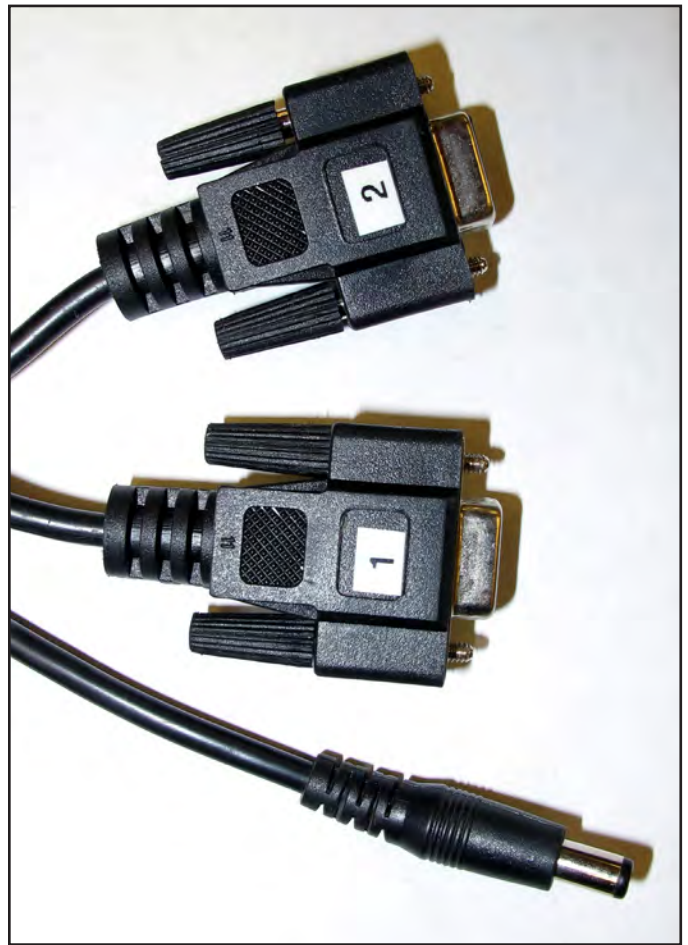

Figure 3.24
5. The black cable has three connections – two 9-pin serial connectors and one barrel connector for power (*Figure 3.24*).